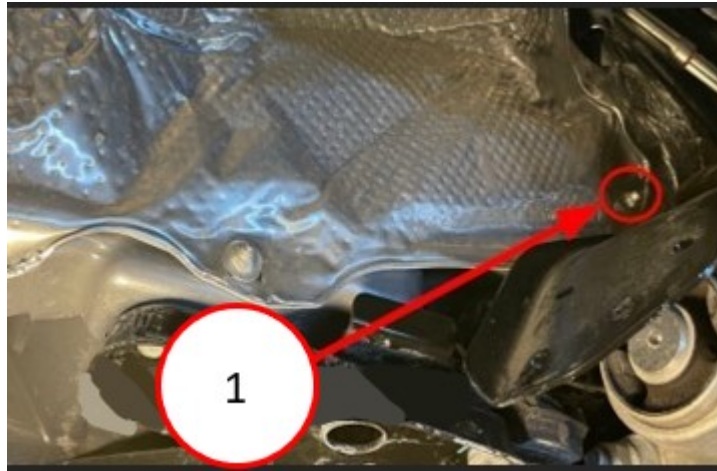

Fig. 5
6. Remove hidden nut on lower heat shield. Set the heat shield aside. (Fig. 5)